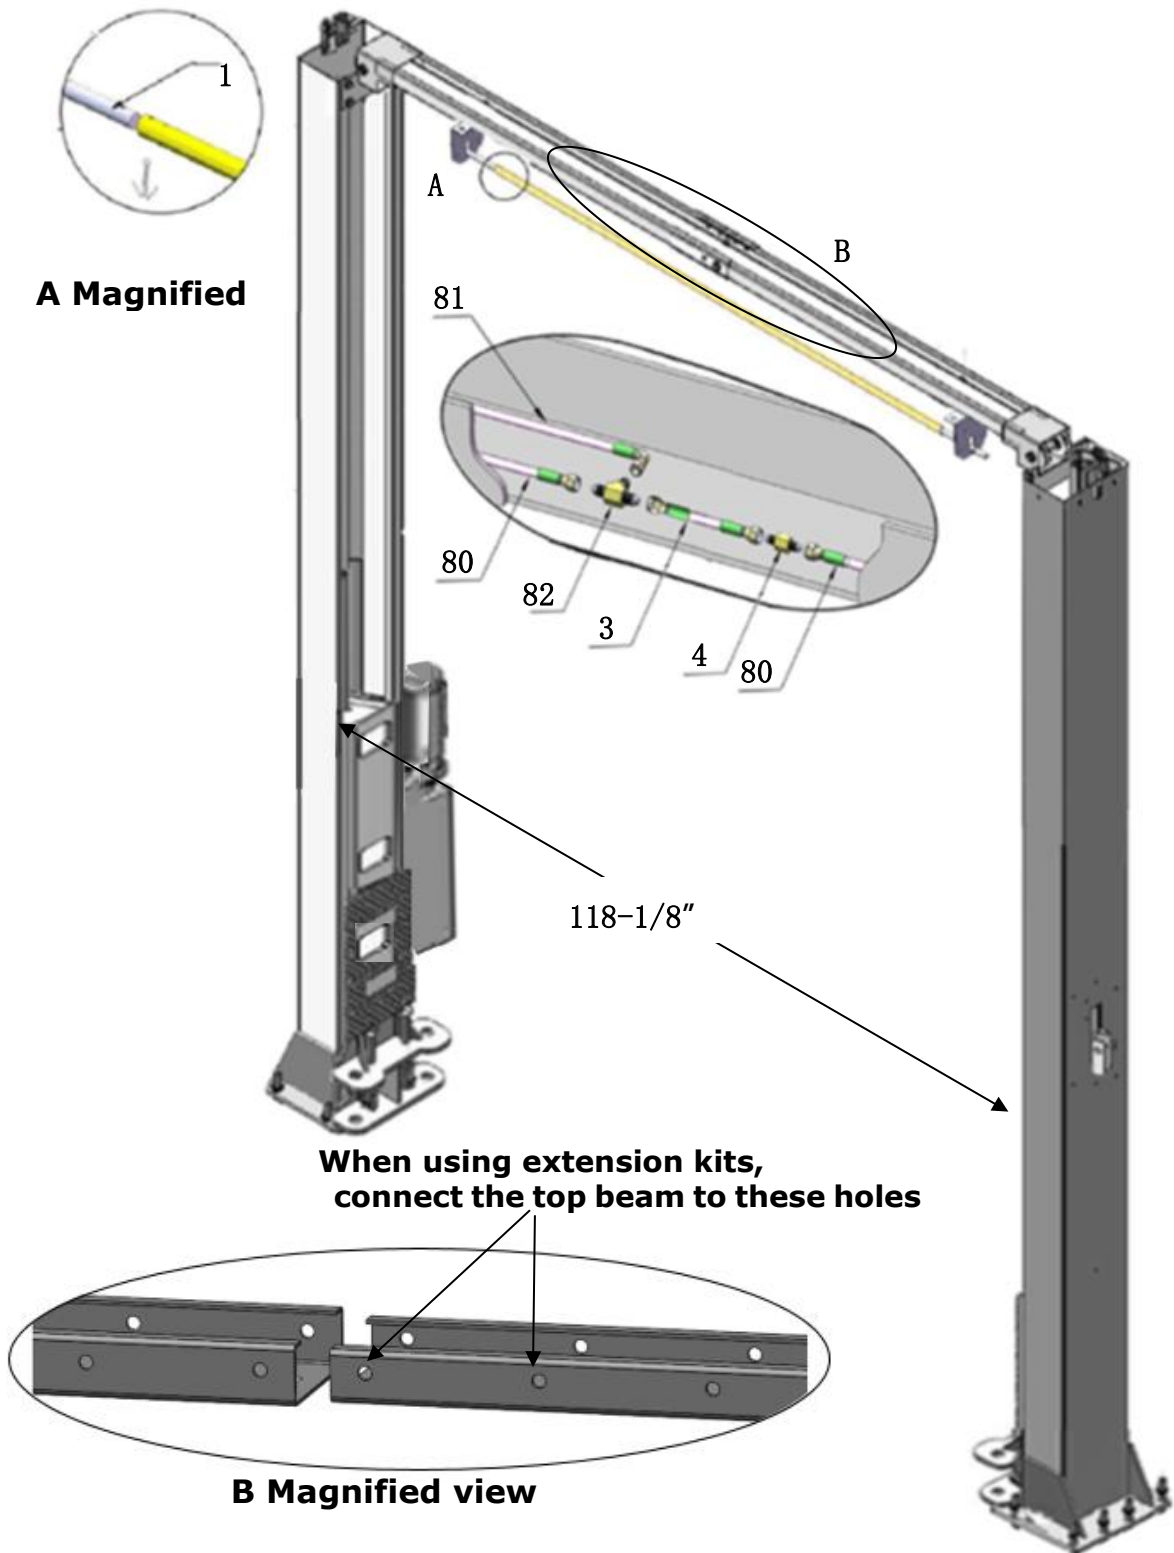

Fig.41
1.1. OHX-10: oil hose, top beam installation. (Figure 41)**